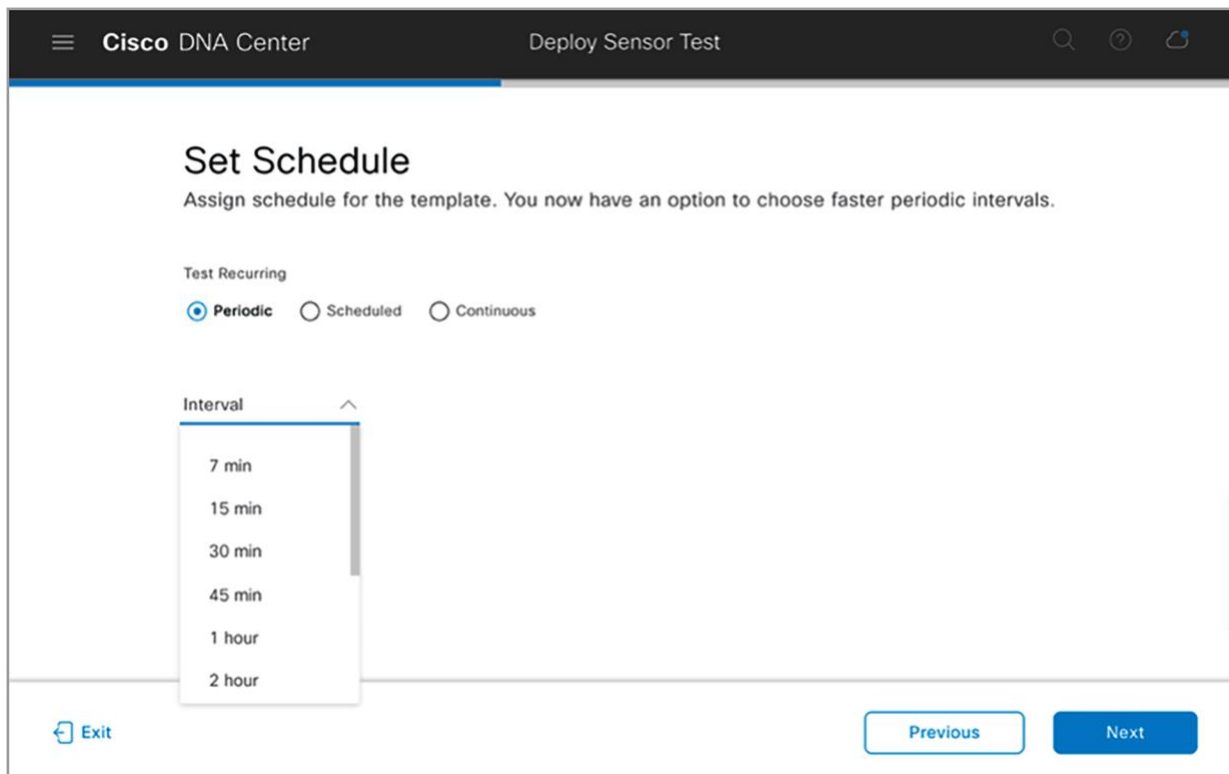

Figure 79.
- y. Select a sensor test interval to determine the frequency with which the sensor runs the test, then click Next (Figure 79).